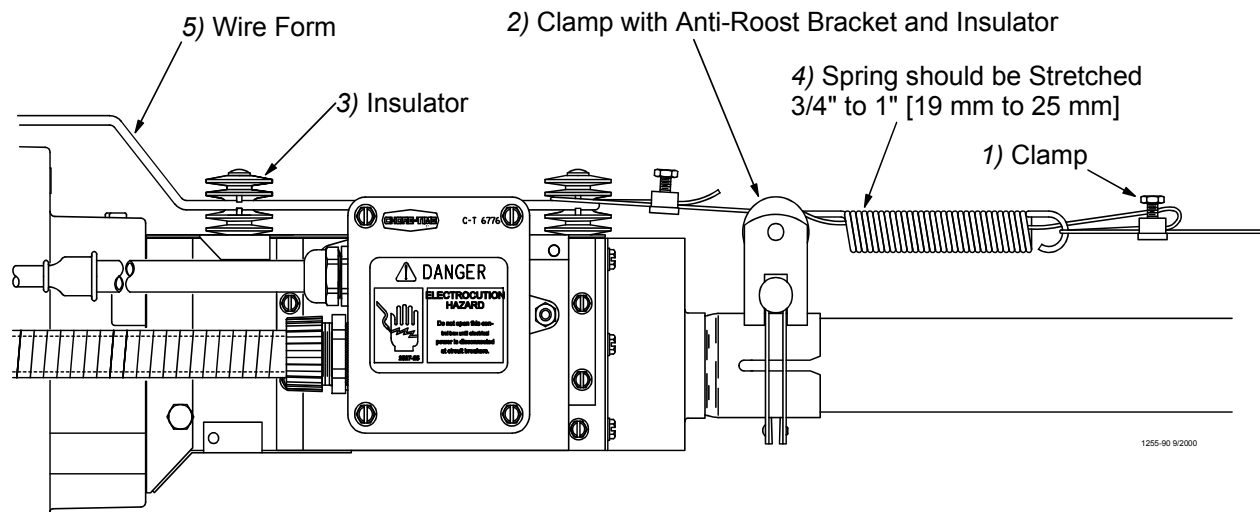

Figure 51. Anti-Roost Installation at the Control Unit
9. At the control unit, after clamping the cable to the spring, cut the cable about 8" to 10" [200 to 250 mm] longer than necessary. Feed the end of the cable through the center of the spring, around the first insulator on the control unit, and clamp the cable using the cable clamp supplied with the control unit. See **Figure 51**.
10. Install the wire form on the control unit insulators. Be sure the guard snaps into the retainers molded into the insulators. See **Figure 51**.